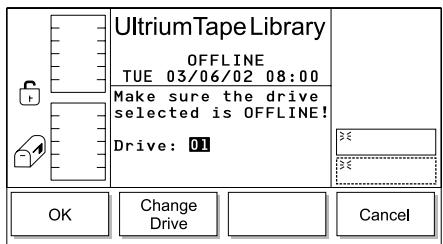

Figure 349. Drives Dialog
3. Press the button below the **Drives** softkey. The Drives Dialog displays the message **Make sure the drive selected is OFFLINE!** and the number of a drive in the library (see Figure 349). Ensure that the drive has completed all operations and that no backup applications are running. Within the drive column, drives are numbered 01 through 06 from bottom to top.